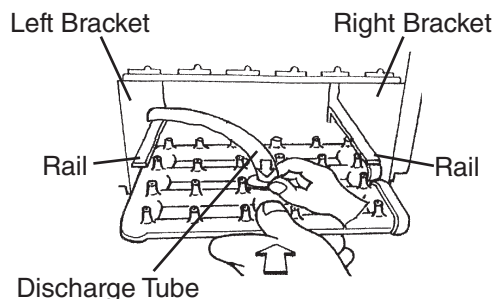

**Fig. 38**
- 8) Remove the two caps. See Fig. 38.